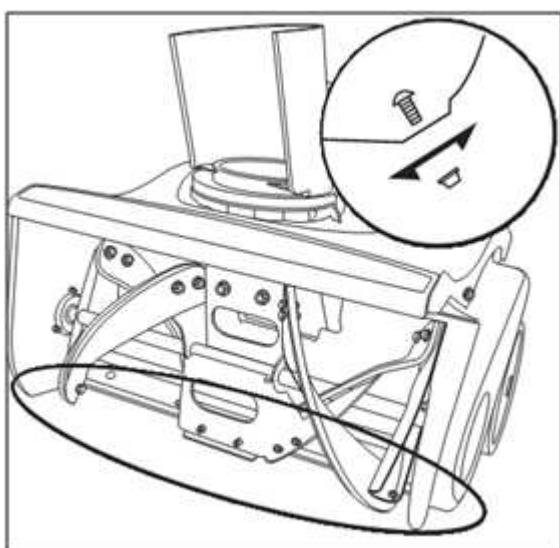

Figure 14
4. Loosen the four lock nuts and bolts that secure the shave plate to the housing. Move the shave plate to the desired position and retighten the nuts and bolts securely. See figure 14.